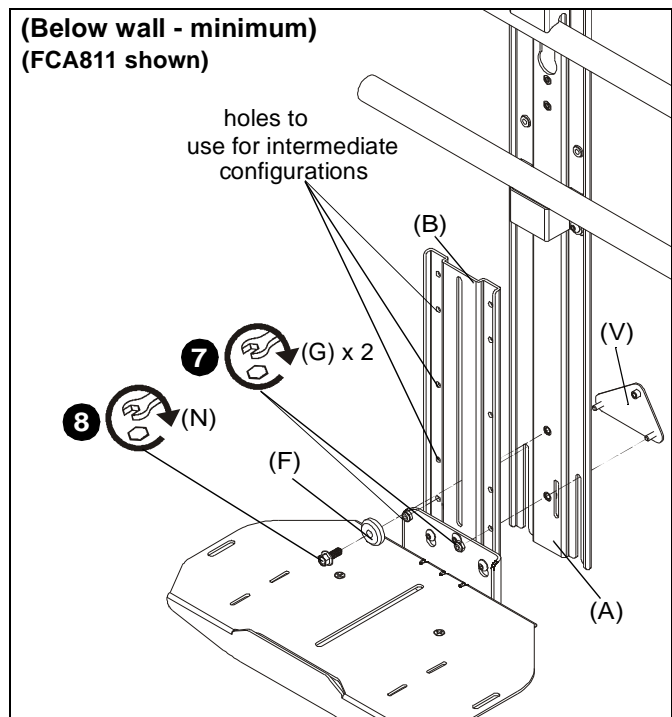

Figure 7
- (For **minimum/intermediate extension**) Use two #10-24 lock nuts (G) to secure upright bracket (A) to main bracket (B) and adapter plate (V). (See Figure 7)
- (For **minimum/intermediate extension**) Use 1/4-20 x 5/8" hex head flange bolt (N) and center washer (F) to secure upright bracket (A) to main bracket (B). (See Figure 7)